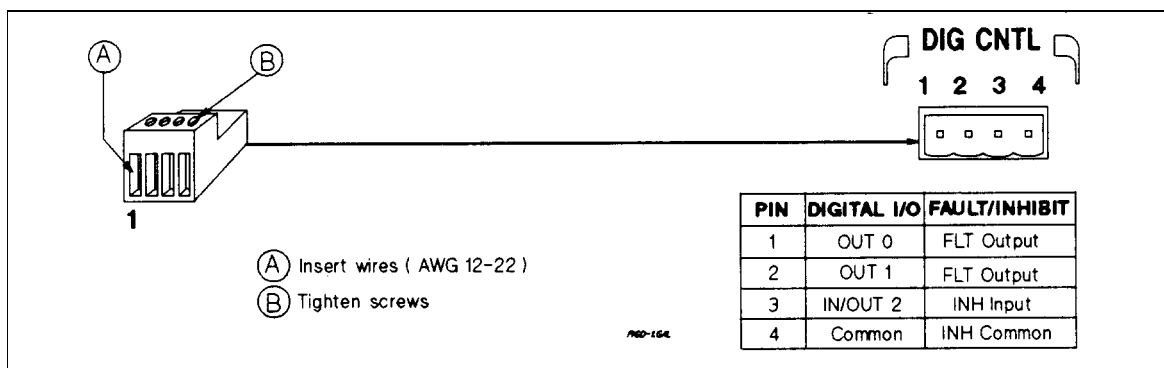
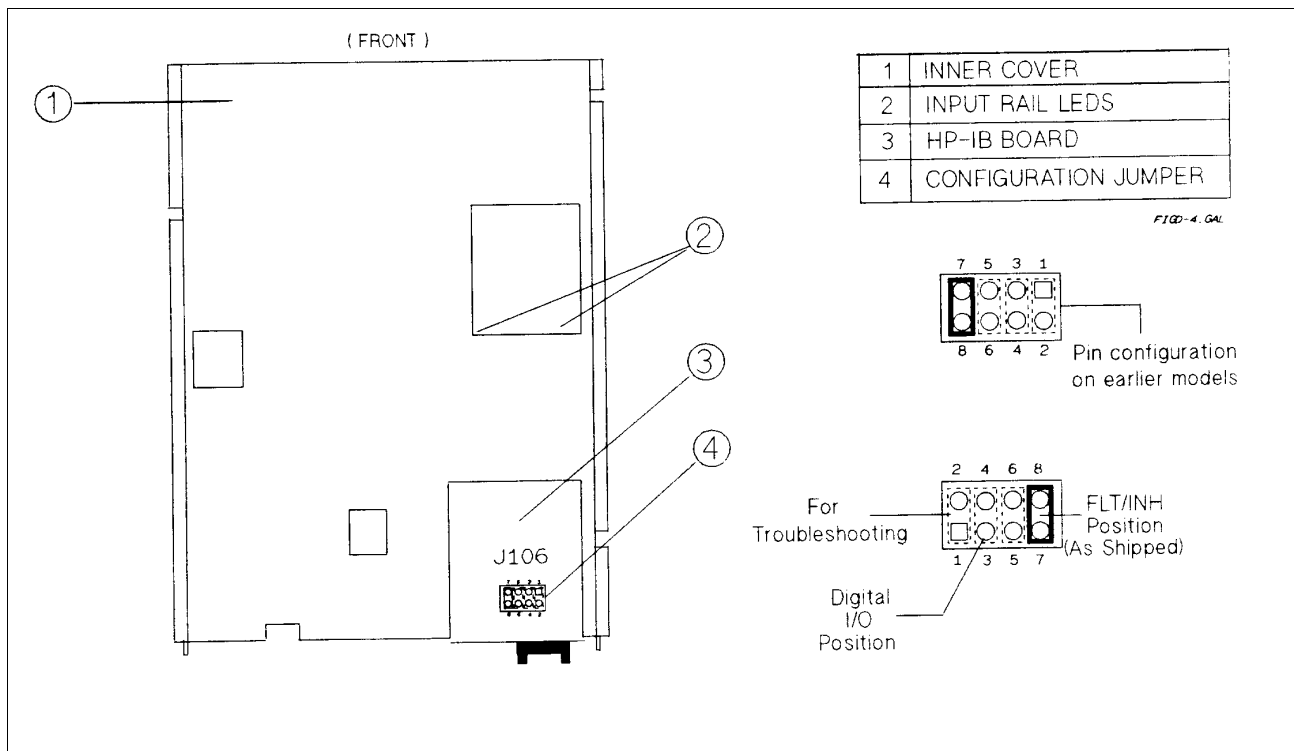
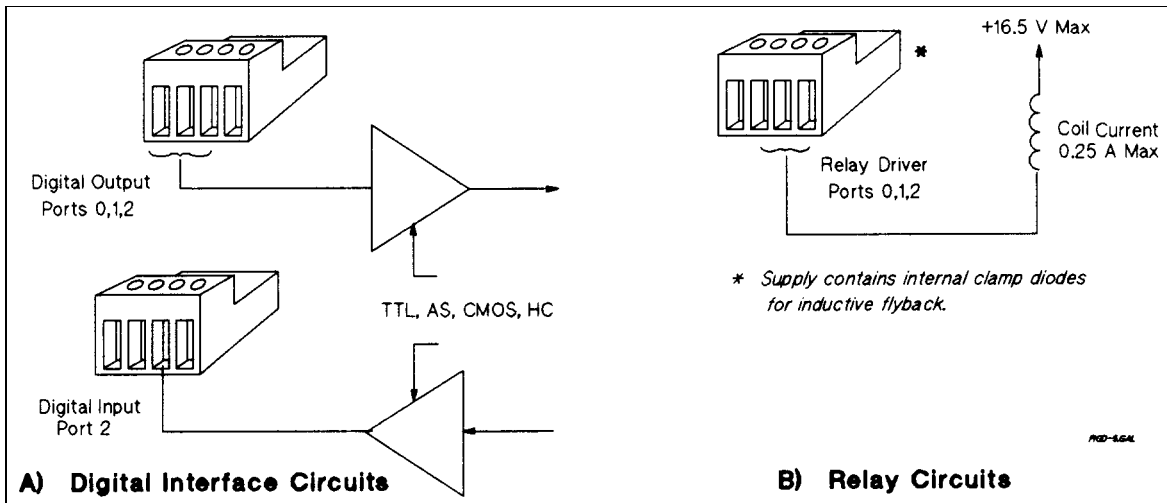

Figure F-1. Digital Port Connector
Figure F-4. Digital Port Configuration Jumper
Figure F-5. Digital I/O Port Applications
A 4-pin connector and a quick-disconnect mating plug are provided for digital input and output signals (see Figure F-1 for wiring connections, and Table A-2 for electrical characteristics). This digital port can be configured to provide either Fault/Inhibit or Digital I/O functions.
As shipped from the factory, the digital port is configured for FLT/INH operation. You can change the configuration of the port to operate as a general-purpose digital input/output port to control your custom circuitry as shown in Figure F-4. To change the port configuration, you must move a jumper on the GPIB board.
5. Refer to Figure F-4 and use needle-nose pliers to move the jumper to the Digital I/O position.
The digital port can be configured (see Figure F-4) to provide a digital input/output to be used with custom digital interface circuits or relay circuits. Some examples are shown Figure F-5. See Figure F-1 for the pin assignments of the mating plug and Appendix A for the electrical characteristics of the port. See **DIG:DATA[:VAL]** in “Chapter 7 - Language Dictionary” for information on programming the port. The digital port pins are as follows:
The digital port can be configured to provide relay control outputs for the Agilent 59510A or 59511A Relay Accessory. Refer to Figure F-1 for the pin assignments of the mating plug.